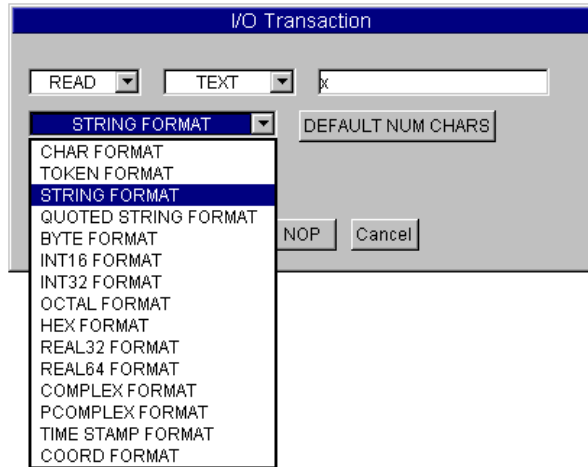

Figure 5-7. Selecting String Format
3. In the `From File` object, leave the default data file `myFile`. Double-click the transaction bar to get the `I/O Transaction` dialog box. Click `REAL64 FORMAT` and change it to `STRING FORMAT`, as shown in Figure 5-7.